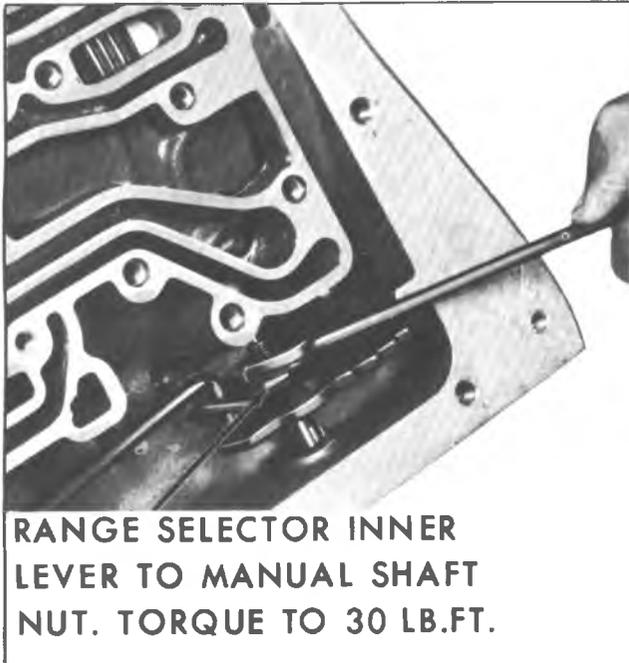

Fig. 7A-22B--Loosening Nut Holding Range Selector Inner Lever to Manual Shaft
9. Loosen nut holding range selector inner lever to manual shaft (fig. 7A-22B).